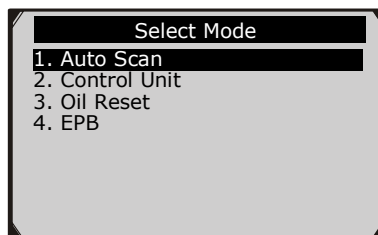
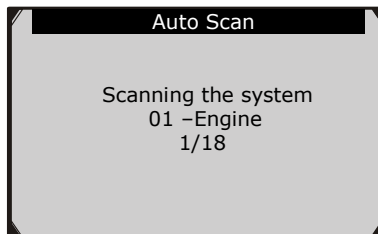
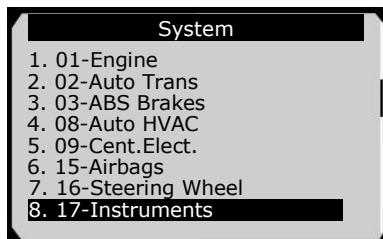

Figure 6.1
Figure 6.2
Figure 6.3
6. With the scan tool in **Select Mode** screen(Figure 6.1), use **UP/DOWN** scroll button to select **Auto Scan**, and press **OK** button. Wait for a few minutes until following screen shows as Figure 6.2. The screen continually changes according to the detecting system. Finally, it will display all detectable systems available in the vehicle as Figure 6.3.
❏ **NOTE:** *The screen will display an estimated number of the detectable systems of the vehicle (eg.18 in the 1/18 of Figure 6.2) according to ECU response at first, but the number of the systems displaying in the **System** screen may be less than the primary estimated number due to various vehicle configuration or vehicle modification.*